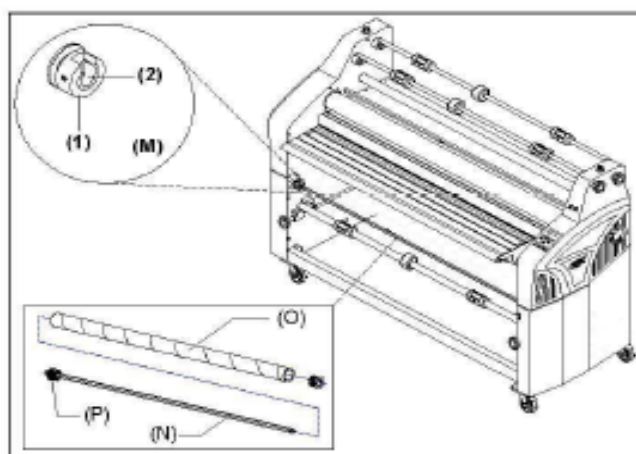

Fig. 18
M. LOWER REWIND SHAFT LOCK: (Figure 18) Secures the left side of the lower rewind shaft. To remove a shaft, turn the outer dial (1) opening so it aligns with the inner u-channel (2) opening and lift up, end up and pulling the hex end out.
N. REWIND SHAFT: (Figure 18) The rewind shaft holds the rewind tube on the machine.
O. REWIND TUBE: (Figure 18) The two rewind tubes located at the front of the machine are used to rewind release liners. The one located at the rear of the machine is used to rewind the finished product.
P. REWIND ADAPTORS: (Figure 18) Hold and lock the rewind tube on the rewind shafts to prevent side to side shifting.